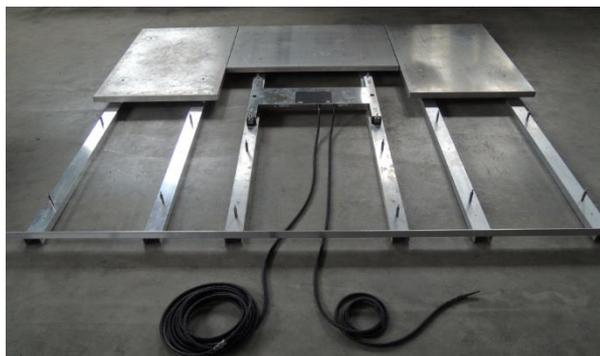

Figure 12 Connection of MAIN and optional sensor cable
4. Connect the MAIN cable and the optional ground-temperature sensor to the SSG-2 scale as illustrated in Figure 12.